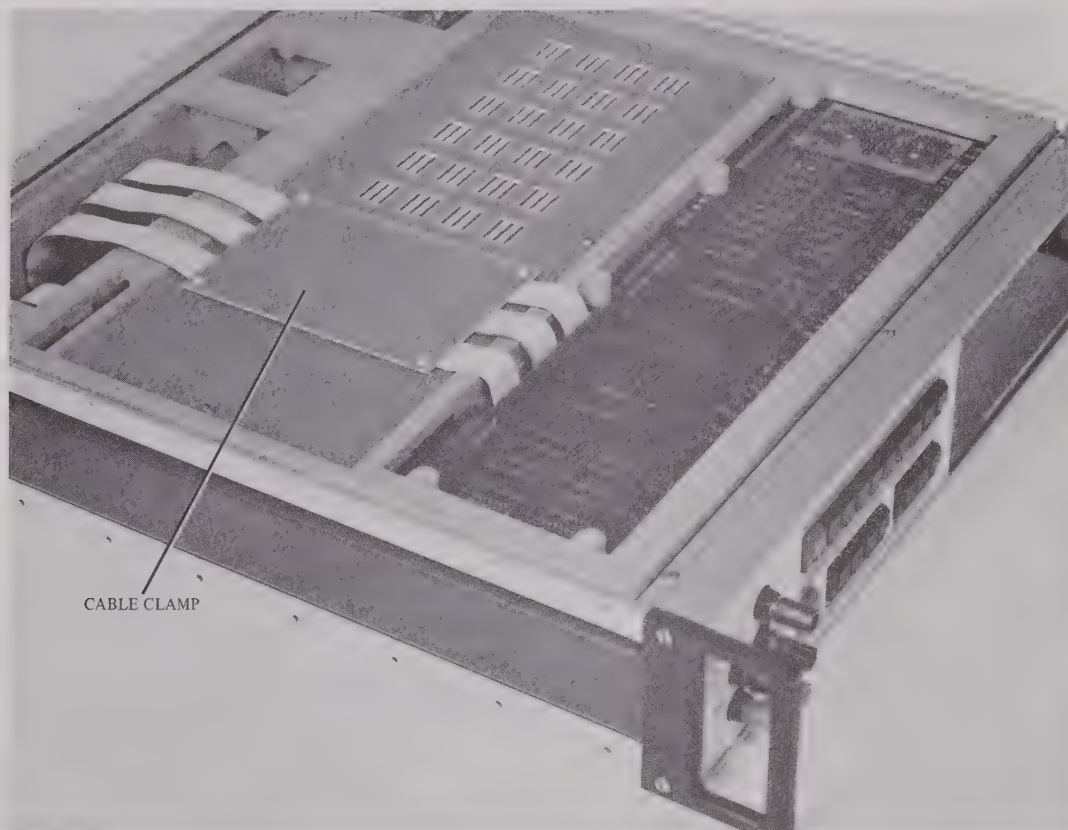

Fig. 7 Fitting the Cable Clamp
12. Fit the cable clamp to underside of instrument using the push-in securing buttons (Fig. 7).